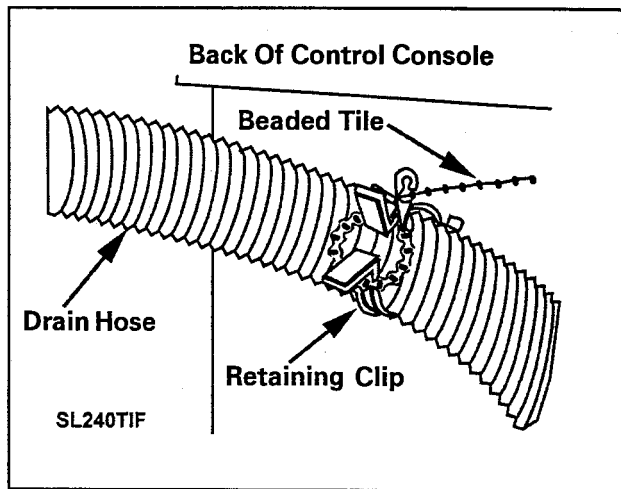

Figure 1-5
7. If the standpipe is less than 36" high, pull the drain hose up vertically and snap the hose into the retaining clip positioned on the upper, rear cabinet wall (*Figure 1-5*).